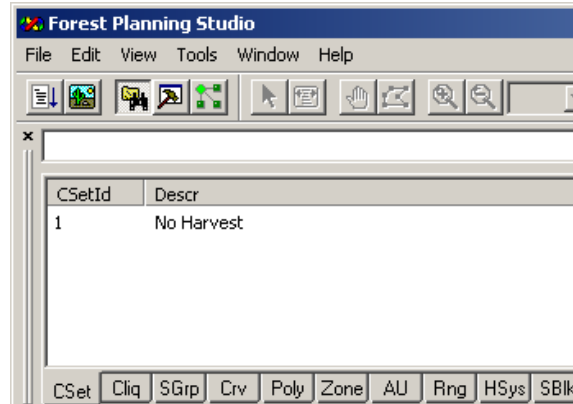

Figure 24: *No Harvest* CSet in the *Browser* window.
- 3.1.5 Select the *CSet* tab at the bottom of the *Browser* window. You will see the *No Harvest* Cset listed (Figure 24).